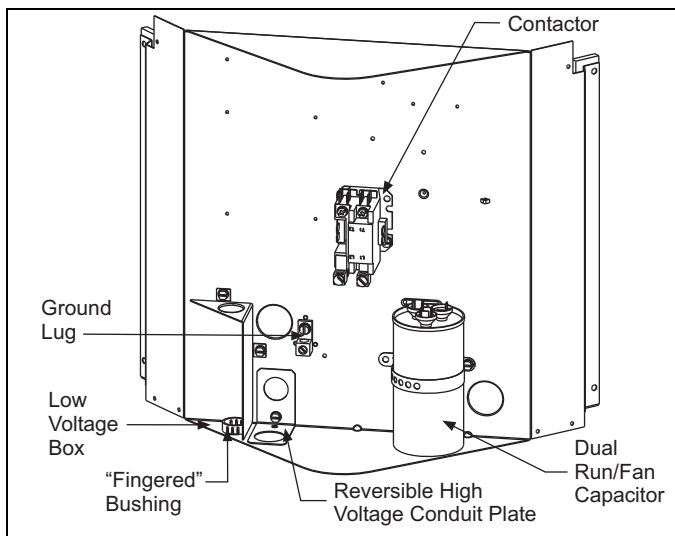
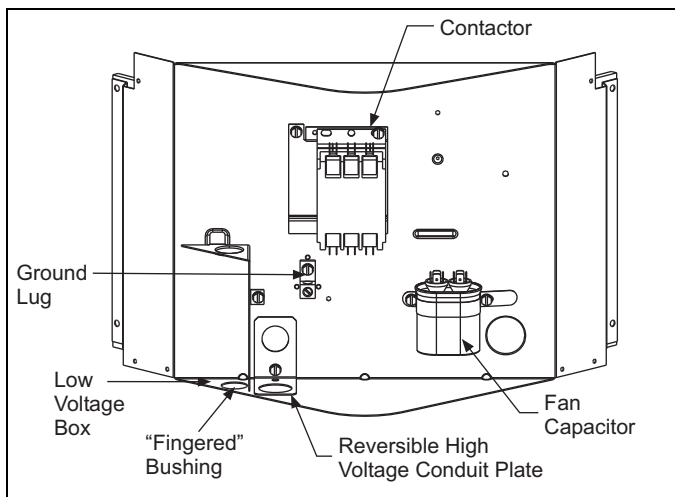

FIGURE 6: Outdoor Unit Control Box (Single Phase)
FIGURE 7: Outdoor Unit Control Box (Three Phase - GCGA36-60)
4. Route wires from disconnect through power wiring opening provided and into the unit control box as shown in Figures 6 & 7.
1. Route low voltage wiring into bottom of control box as shown in Figure 6. Make low voltage wiring connections inside the low voltage box per Figures 7 - 11.